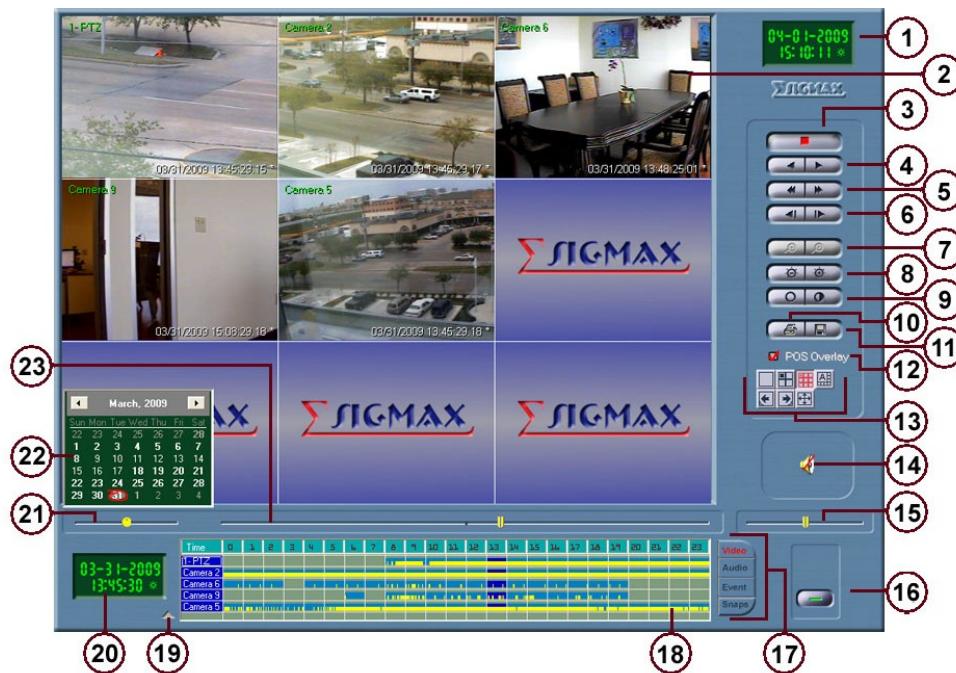

Figure 5-1 Search Screen
- (1) **Current Date and Time Box.** Top line indicates the date. Bottom line is the time.
- (2) **Camera Image Display.**
- (3) **Stop Button.** Click to stop video playback.
- (4) **Normal Reverse/Forward Buttons.** Click to initiate video playback in normal speed Reverse or normal speed forward.
- (5) **Fast Reverse/Forward Buttons.** Click to initiate video playback in fast speed Reverse or fast speed forward.
- (6) **Step Back/Forward Buttons.** Click to step back/forward by one frame (automatically stops after moving one frame).
- (7) **Zoom Out/In Buttons.** Click to shrink/enlarge the image (only usable when in single camera display mode (Figure 5-1 (13))). If the image is enlarged beyond the panel borders, click and drag the image to adjust its position. Right-click to reset to default level.
- (8) **Decrease/Increase Brightness Button.** Click to decrease/increase all of the images' brightness levels. Right-click to reset to default level.
- (9) **Decrease/Increase Contrast Button.** Click to decrease/increase all of the images' contrast levels. Right-click to reset to default level.
- (10) **Print Images Button.** Click to view the Print Images window (details given later). This option is only enabled when playback is stopped (not in Normal or Fast Reverse/Forward).
- (11) **Export Images Button.** Click to view the Export Images window (details given later). This option is only enabled when playback is stopped (not in Normal or Fast Reverse/Forward).
- (12) **POS Overlay Box.** Check/Uncheck the box to enable/disable the POS Overlay on the images.
- (13) **Display Mode Selection.** Click a display mode icon to choose a different display mode (Figure 5-1 (13)).
Click the Video tab (Figure 5-1 (17)) to view the Video List in the Bottom Panel:
Click the Audio tab (Figure 5-1 (17)) to view the Audio List in the Bottom Panel:
Click the Event tab (Figure 5-1 (17)) to view the Event List in the Bottom Panel (shown here in enlarged bottom panel mode and with the Additional Options (1-5) pop-up menu that can be accessed by right-clicking in the Event List):
Click the Snaps tab (Figure 5-1 (17)) to view the Snapshot List in the Bottom Panel. All saved snapshots are listed in the panel in the order in which the oldest snapshot is listed at the top. Right-clicking on the panel opens a context menu (See the figure below) for further operation on the saved snapshots.
1. If the Calendar Box (Figure 5-1 (22)) is hidden, click the Playback Date and Time Box (20) to show the calendar.
4. Adjust the 24 Hour Adjuster (Figure 5-1 (23)) such that the video is at the approximate desired time (See Section 5.1.2 Search Context Menu for exact date/time search). Fine tune using the other playback controls (4-6, 15, 21) and begin playback.